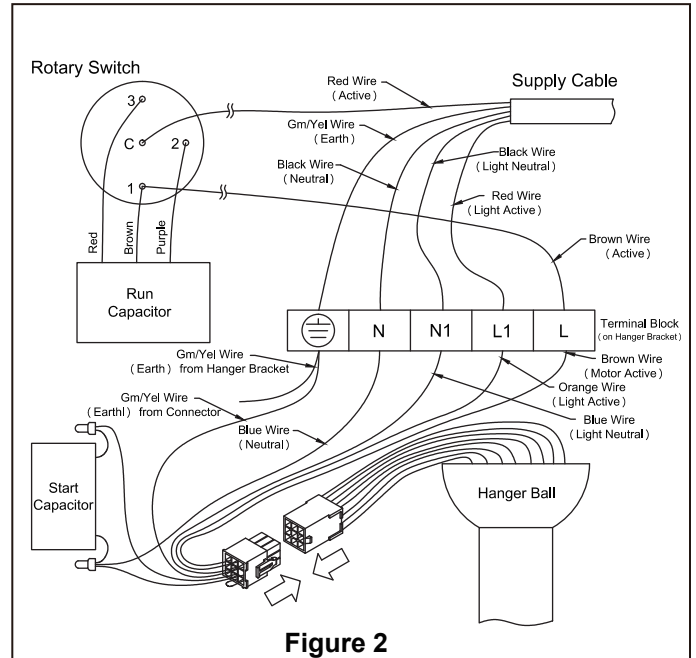

Figure 2
The fan must be hung with at least 2.1m of clearance from floor to blades. (Figure 2)
- Securely attach the 9-pin connector from the hanger bracket to the wire harness socket of hanger ball. (Figure 2)
- Ensure wiring connections are as shown in Fig 2. The Active (Red) supply wire must be connected to terminal "C" on the rotary switch. Return switched wire to ceiling fan to be connected from terminal "1" on the rotary switch to "L" terminal on the connector block.
- 2. Securely attach and tighten the canopy screw cover over the shoulder screws in the hanger bracket utilizing the keyslot twist-lock feature. (Figure 2)